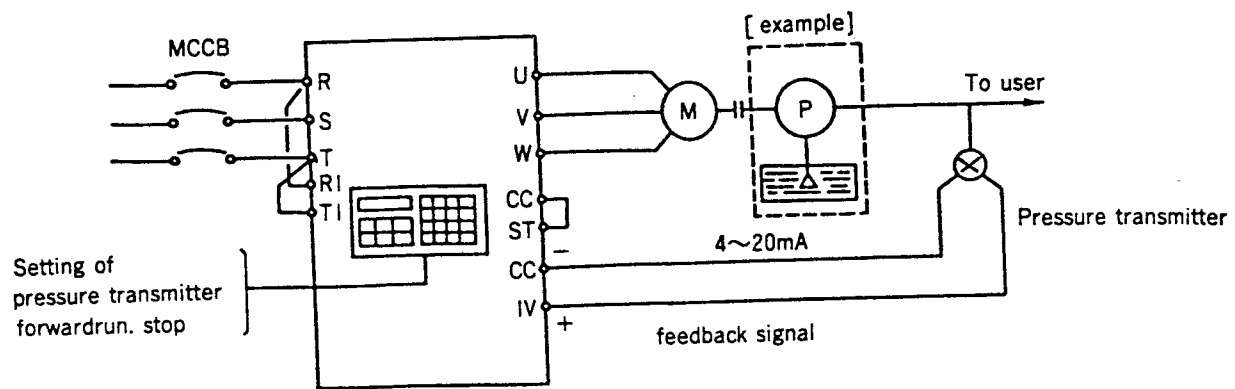

Figure 3.32 Example of pressure constant control
- 9) Figure 3.32 shows the pressure constant control as an example.